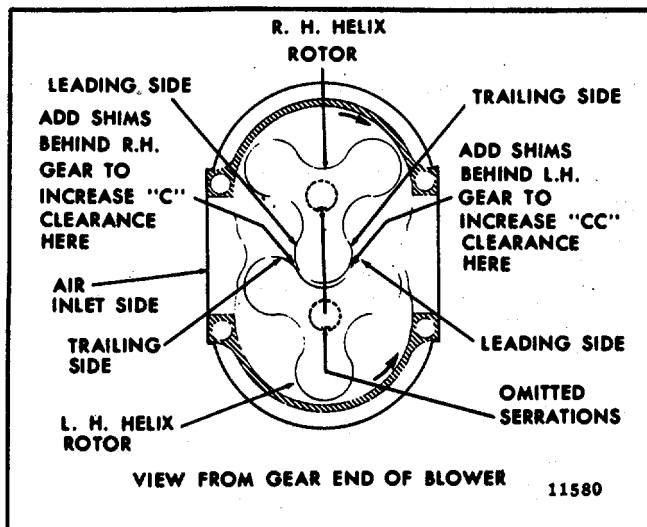

FIG. 20 Diagram Showing Proper Location of Shims for Correct Rotor Lobe Clearances
6. After determining the amount one rotor must be revolved to obtain the proper clearance, add shims back of the proper gear as shown in Fig. 20 to produce the desired result. When more or less shims are required, both gears must be removed from the rotors. Placing a .003" shim in back of a rotor gear will revolve the rotor .001".